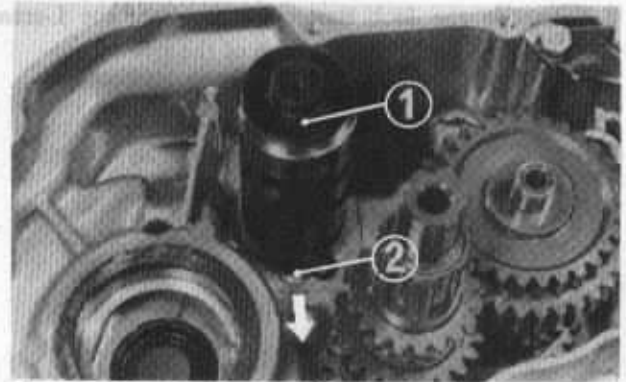

Fig. 23 (1) Shift drum . (2) Neutral switch
2. Install the shift drum with the neutral rotor switch facing toward the arrow as shown in Fig. 23.